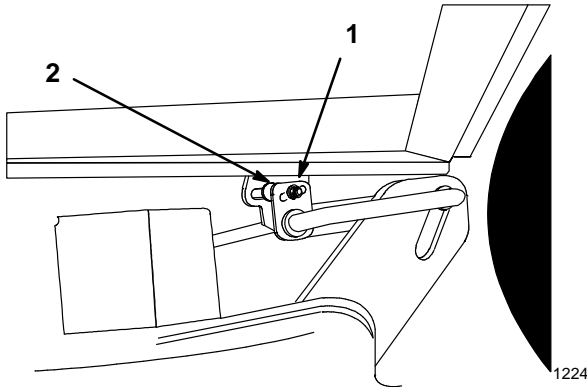

**Figure 10**
3. Carefully rotate blade(s) side to side (Fig. 10). Measure between the outside cutting edges and the flat surface (Fig. 10). If both measurements are not within 3/16" (4.762mm), an adjustment is required; refer to steps 4 through 6.
3. Carefully rotate blade(s) side to side (Fig. 10). Measure between the outside cutting edges and the flat surface (Fig. 10). If both measurements are not within 3/16" (4.762mm), an adjustment is required.